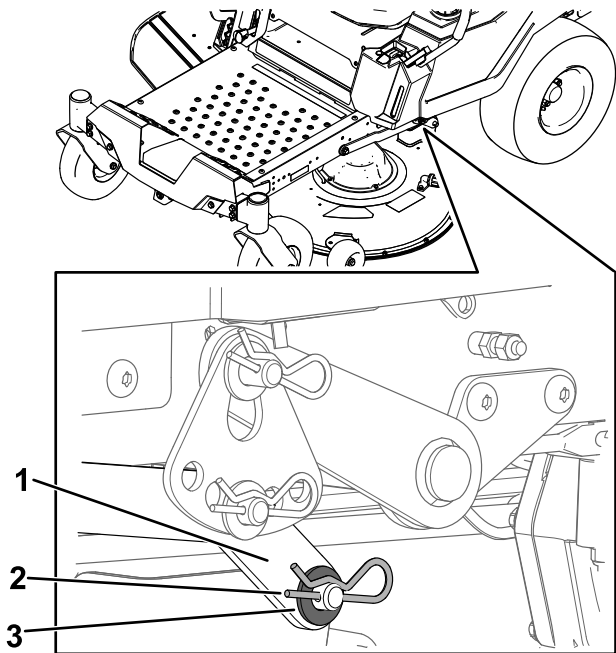

Figure 74
- On 1 side of the machine, remove the washer and hairpin cotter from the deck pin (Figure 74).
- Remove the lift arm from the deck pin (Figure 74).
- On 1 side of the machine, lift the rear of the mower deck and install the lift arm to the deck pin (Figure 74).
- Install the lift arm using the washer and hairpin cotter (Figure 74).